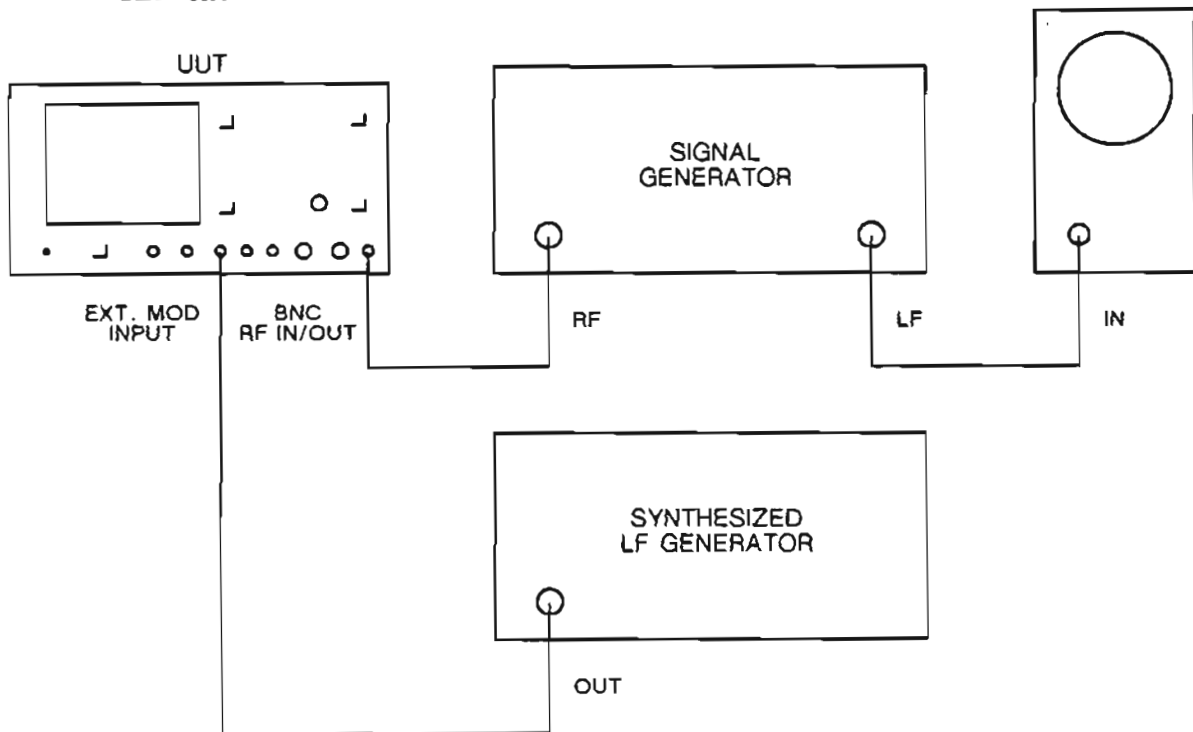

Fig. 3 Test equipment connections for adjusting R138 on AA3
- (1) Connect the equipment as shown in Fig. 3.
- (2) Set the u.u.t. to receiver test, b.n.c. output socket. Set the signal generator to 300 MHz, level 0 dBm, 0 kHz f.m.
- (3) Set the synthesized l.f. generator to give a 10 Hz square wave of 1 V p-p.
- (4) Set the modulation meter to monitor f.m. (If the Marconi Modulation Meter 2305 is used, select the 10 Hz - 300 kHz filter and set the l.f. control to the white mark.)
- (5) The oscilloscope should display a fuzzy 10 Hz 'square wave' which will have some sag. If there is more than 40% sag, adjust R138 until the top and bottom of the waveform are reasonably straight and smooth.